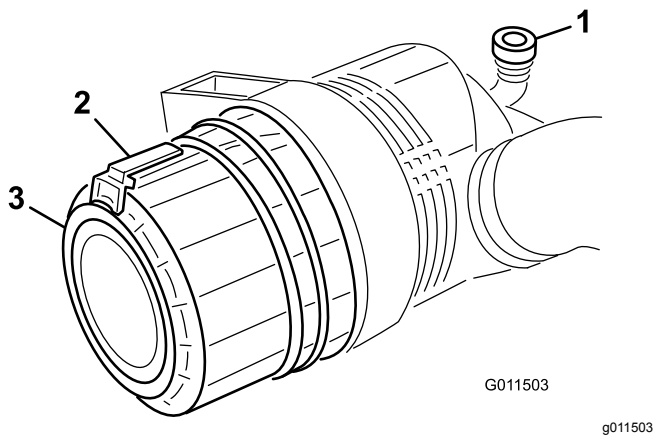

Figure 73
2. Pull the latch outward and rotate the air-cleaner cover counterclockwise (Figure 73).